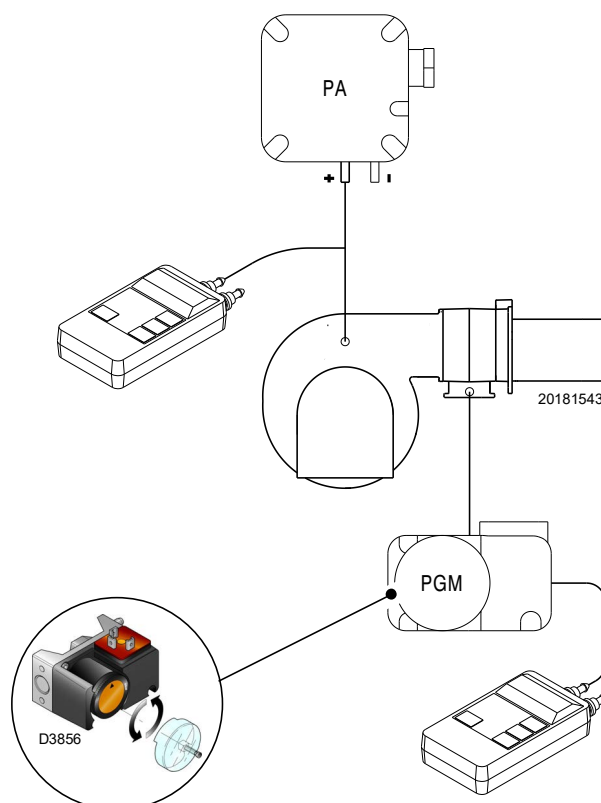

Fig. 30
- Adjust the maximum gas pressure switch (Fig. 30 at page 35) to the end of the scale.
Adjust the maximum gas pressure switch (Fig. 30) after making all other burner adjustments with the maximum gas pressure switch set to the end of the scale.